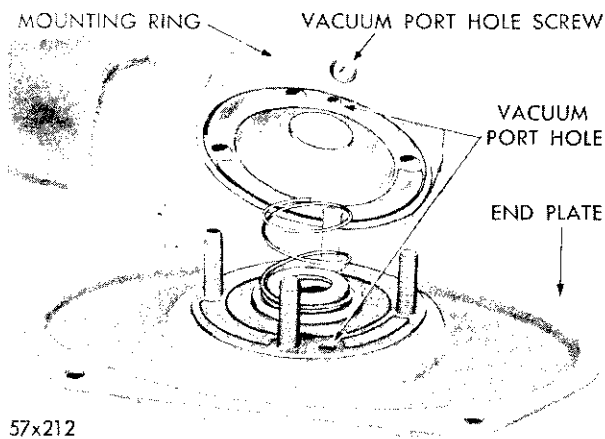

Fig. 65—Installing the Mounting Ring
(8) Coat the bearing surface of the mounting ring with silicone grease, and slide mounting ring down over bolts (with recessed side next to gasket and the vacuum port holes aligned) until threads are contacted, as shown in Figure 65. Tighten bolts